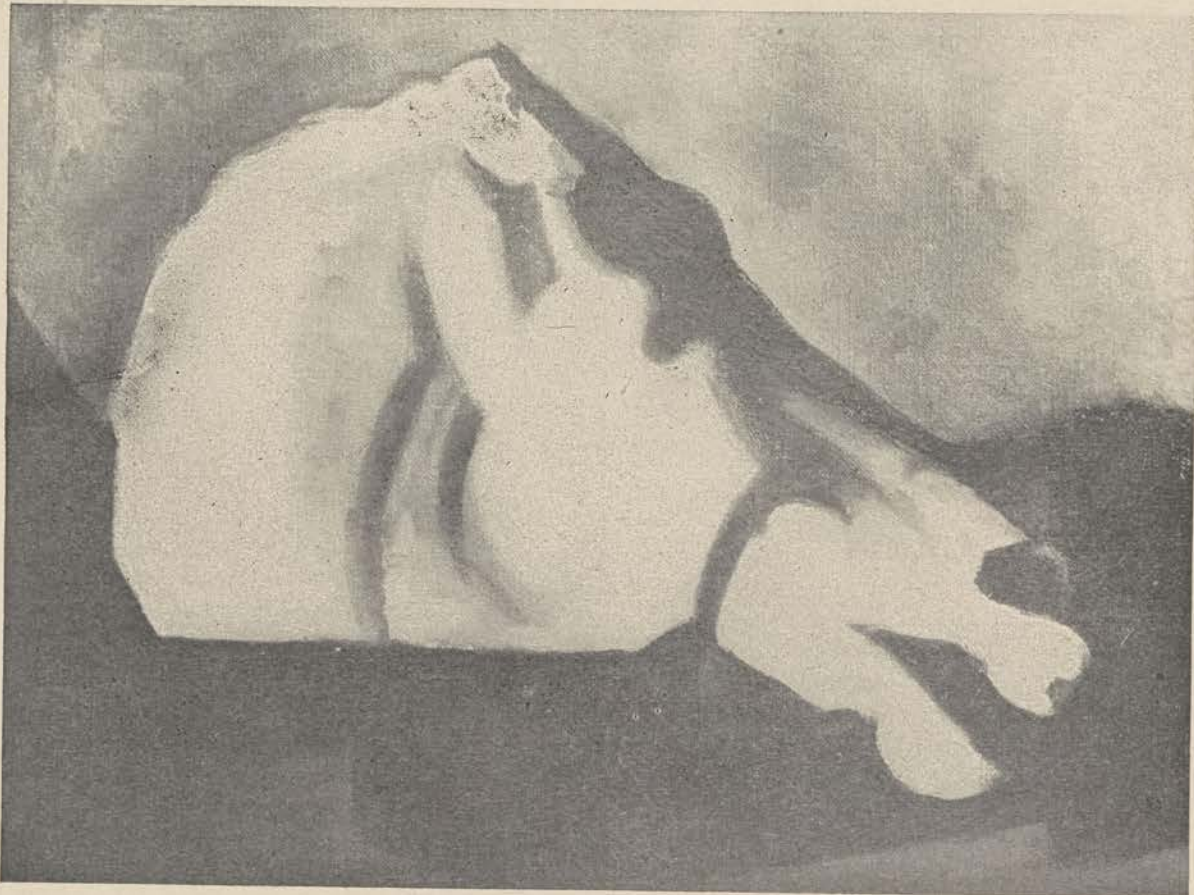

Figure 244.
a. For instructional purposes we have selected a cast of a horse's head made of plaster (fig. 244).